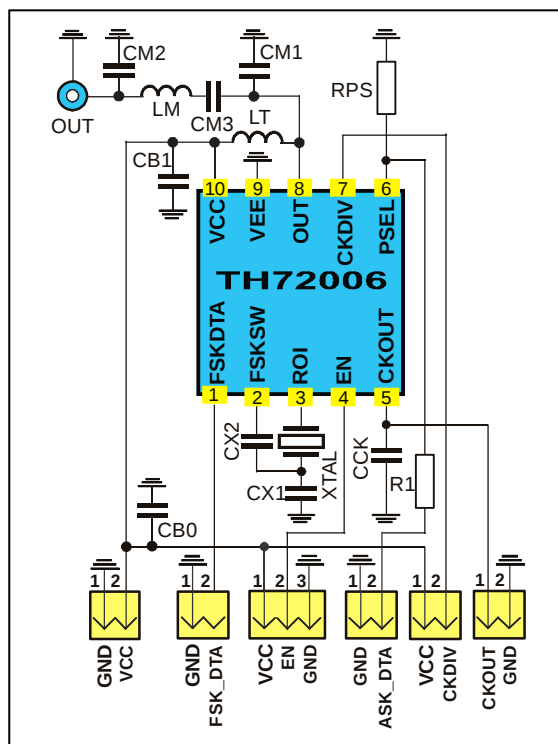

Fig. 6: Test circuit for FSK and ASK with 50 Ω matching network
typical values at $T_A = 23\text{ }^{\circ}\text{C}$ and $V_{CC} = 3\text{ V}$; test circuit shown in Fig. 6, $f_c = 315\text{ MHz}$
typical values at TA = 23 °C and VCC = 3 V; test circuit shown in Fig. 6
5.1 Test circuit component list to Fig. 6